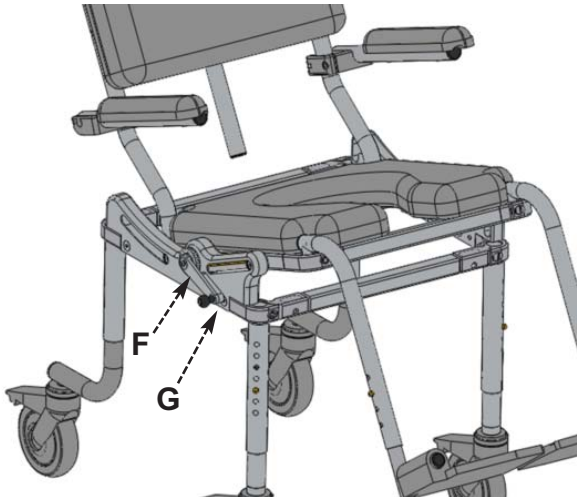

Figure 3
**F** The tilt mechanism is operated by pulling the spring loaded crank lever outwards and rotating the handle. Once the tilt angle is reached, we recommend either having the unit at its highest/largest tilt angle or flat, slowly release the spring loaded lever and it will automatically lock itself into one of the indexing holes on the indexing disk (Refer to Figure 3)